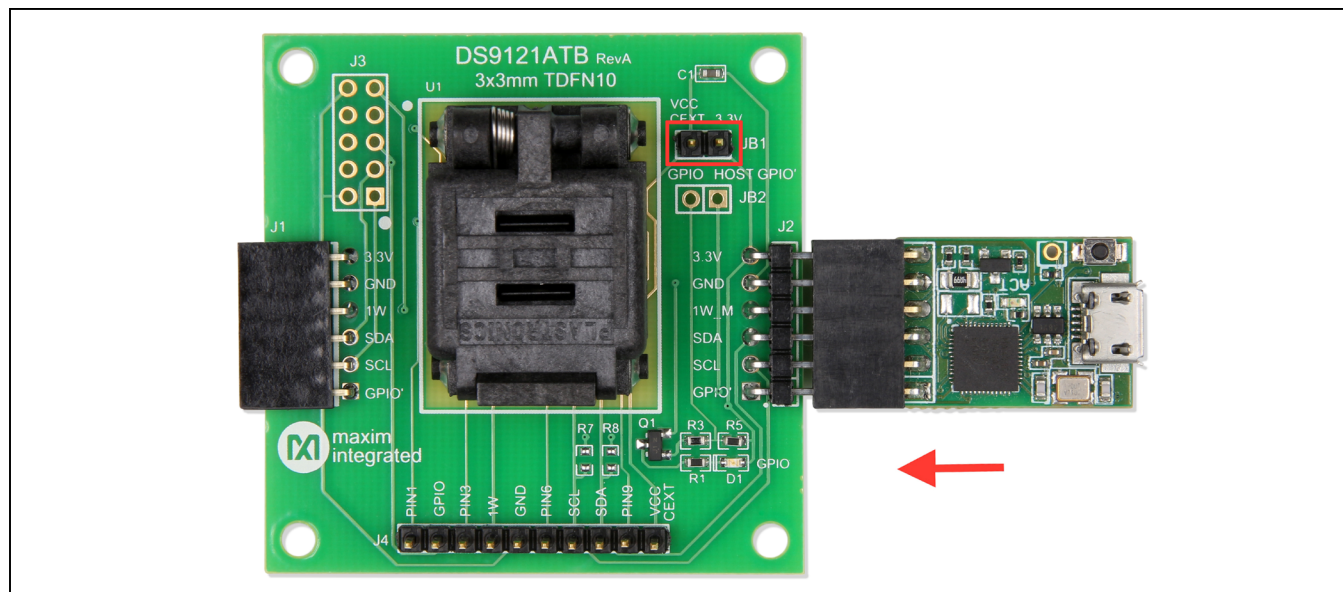

Figure 7. DS9481P-300 and DS9121ATB
- c) **Connect** the DS9121ATB+ J2 6-pin male plug into the DS9481P-300# 6-pin female socket, as shown in Figure 7.
- d) Insert VCC jumper JB1 (Figure 7) for the DS9121ATB+ board with the DS2478.